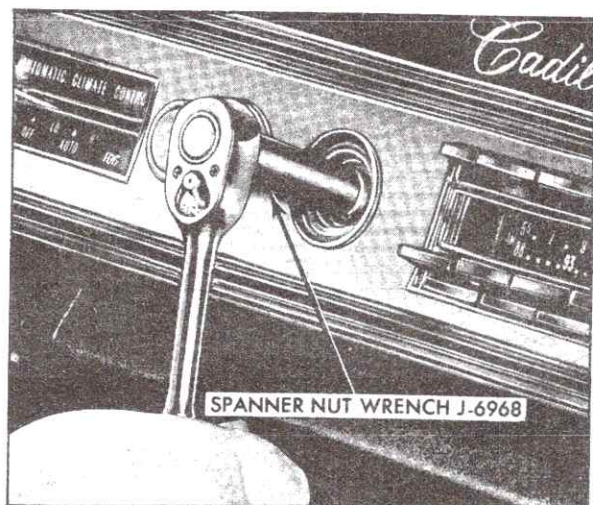

Fig. 12-45 Removing Radio Control Knob Nut
6. Using Spanner Nut Wrench J-6968, remove spanner nuts that hold control shafts to instrument panel, Fig. 12-45.
9. Tighten spanner nuts that hold control shafts to panel using Spanner Nut Wrench J-6968, Fig. 12-45.